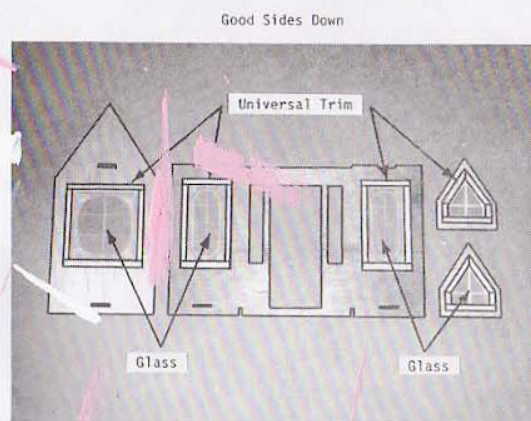

Figure 2
2. Turn Walls over. Locate **Window Glass**. Cut out Bay Window, Dormer Windows, Front Wall Windows. Run a small bead of glue around the window openings and spread with finger. Place window glass on wall with the whitest side down. Make sure glass is centered on opening. Again cut to fit **Universal Trim** to surround the window openings **except** the door and door side windows. See Figure 2.